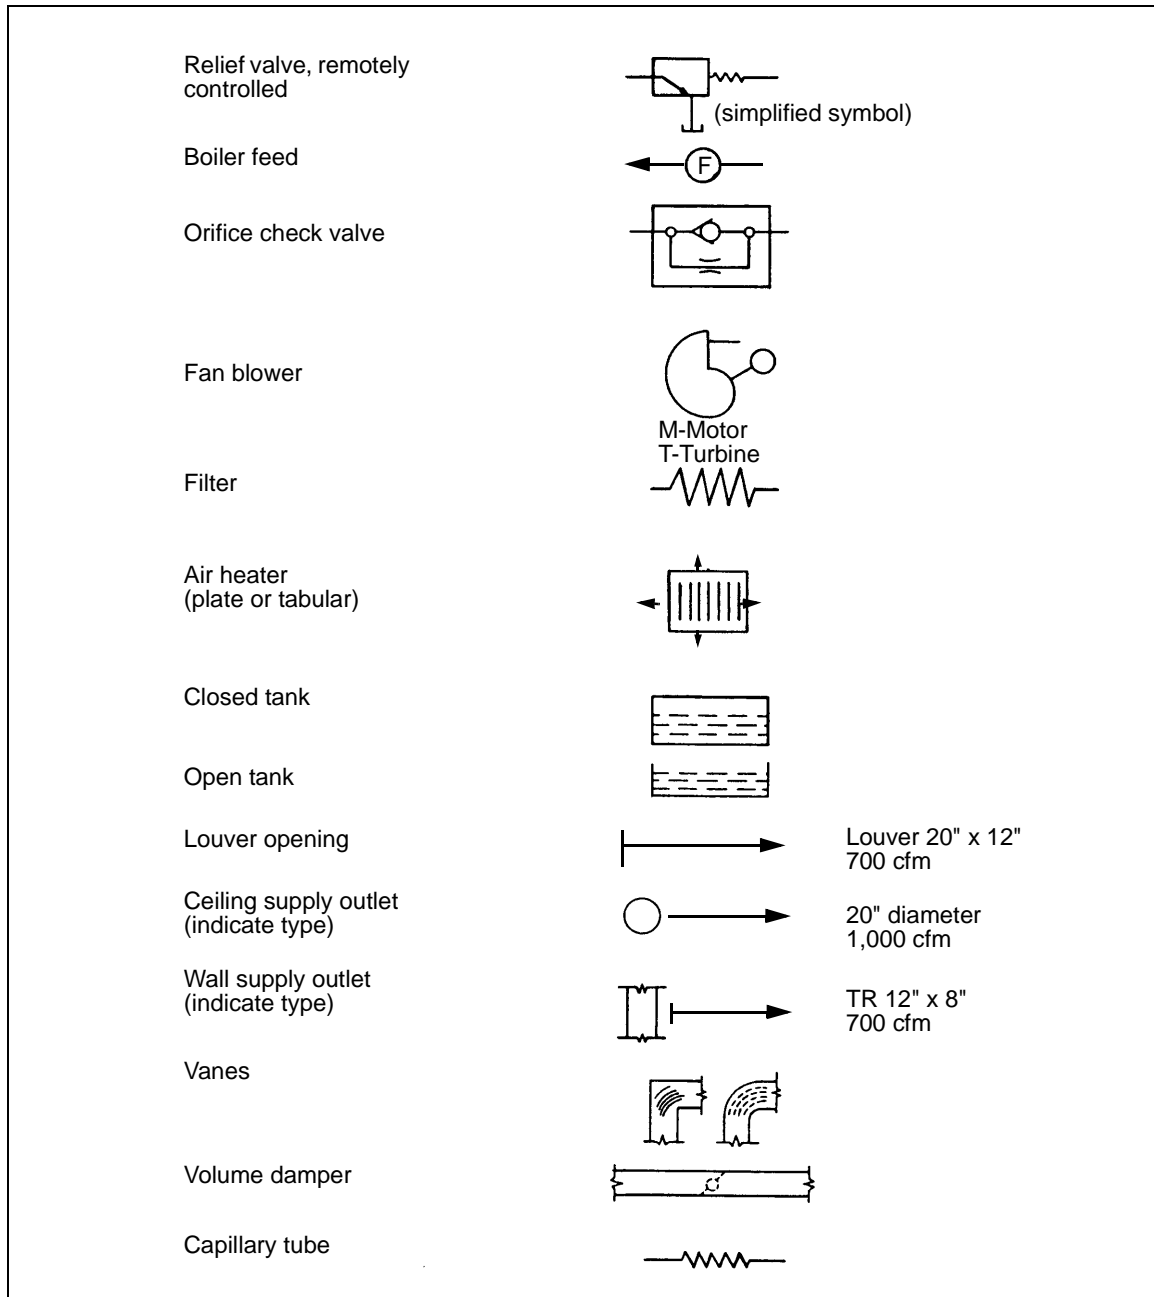

Figure B-10. Heating Fittings
- Heating Fittings (*Figure B-10*).